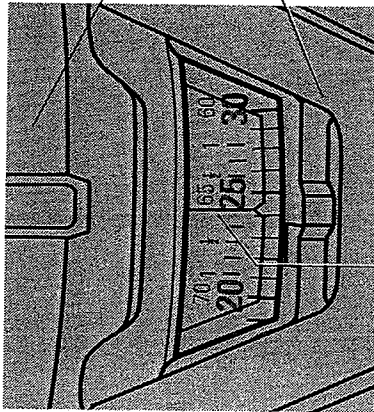

FIG. 15
2. Set the miter angle to the nearest whole degree desired by aligning the center mark in the vernier scale, shown in Figure 15, with the whole degree number etched in the miter scale. Examine Figure 15 closely; the setting shown is 24 degrees right miter.